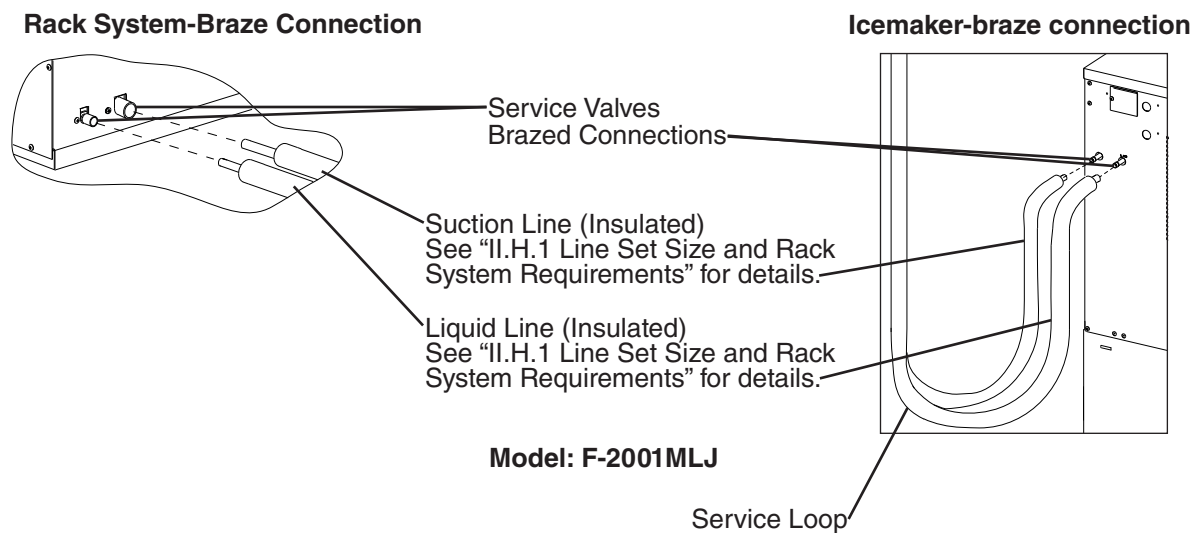

Fig. 12
- 1) Route the proper size copper tube liquid line and copper tube suction line (see "II.H.1 Line Set Size and Rack System Requirements" for details) from the rack system to the icemaker. Leave a service loop behind the icemaker to allow the icemaker to be pulled out for service. See Fig. 12. Note: The service loop is not considered an oil trap.